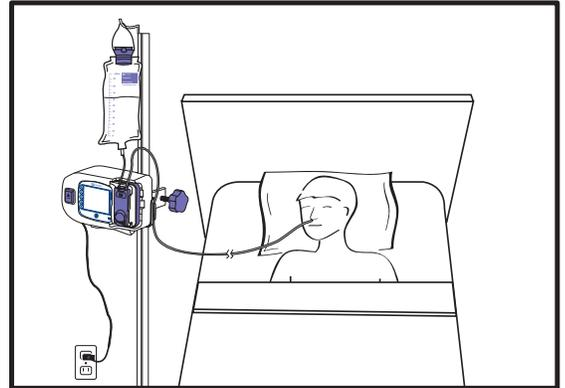

Fig. 1
- a. Plug the power adapter into the power adapter port located on the left side of the pump (Fig. 1). Plug the other end of the power adapter into a nearby A/C outlet. Or if using the car charger power adapter, plug the cylindrical connector into the car charger port.